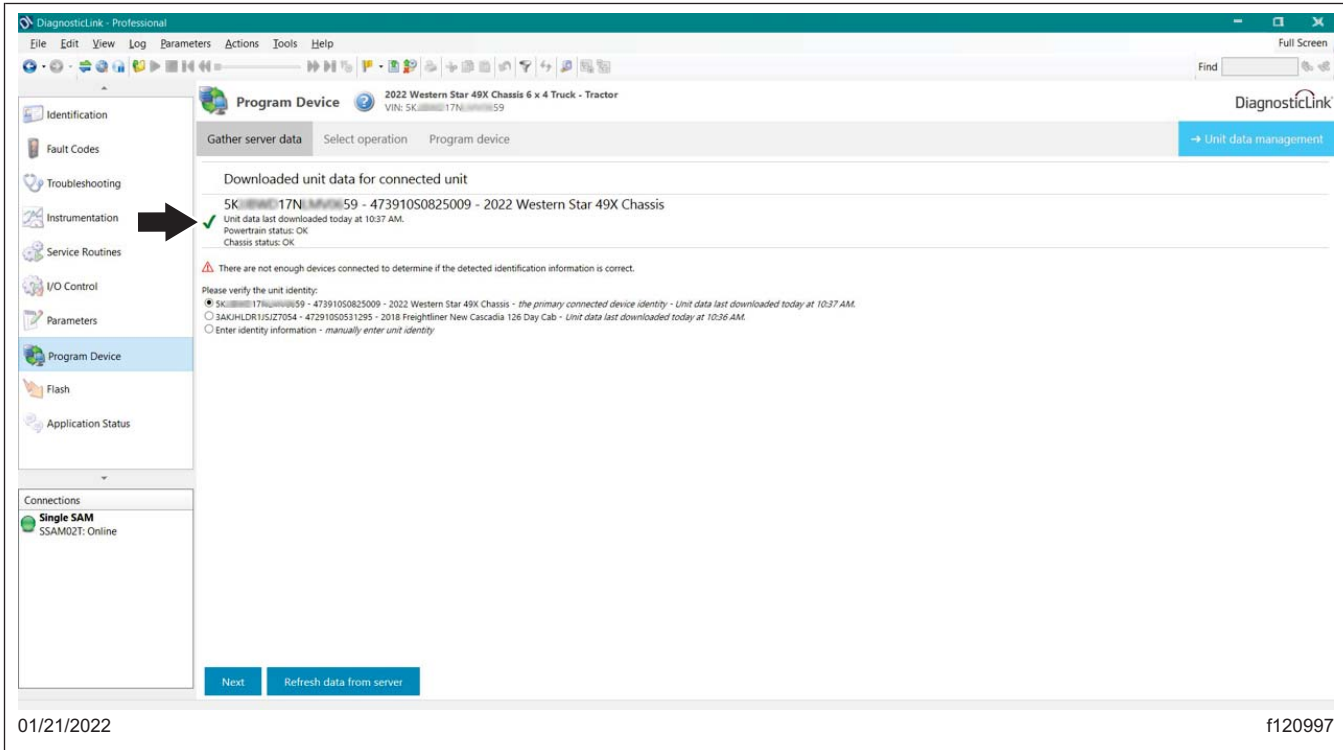

Fig. 11, Server Downloading Data
- When the data download is complete, a green check mark appears next to the VIN on the 'Gather server data' screen. See Fig. 11.